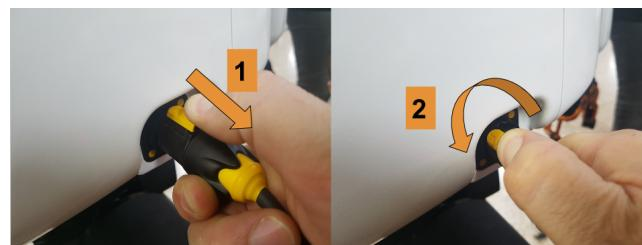

Figure 26: To unplug charger: pull yellow tab outwards and rotate left
2. Unplug the security connector from the robo:t as indicated in Figure 26.